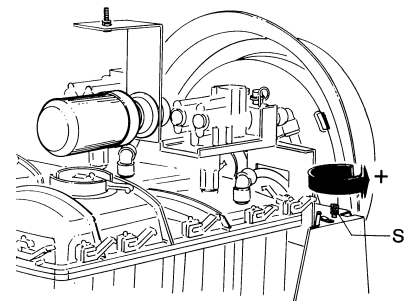

FIGURE 11
To vary the viscosity of the product, turn the knob (S) as shown in FIGURE 11.